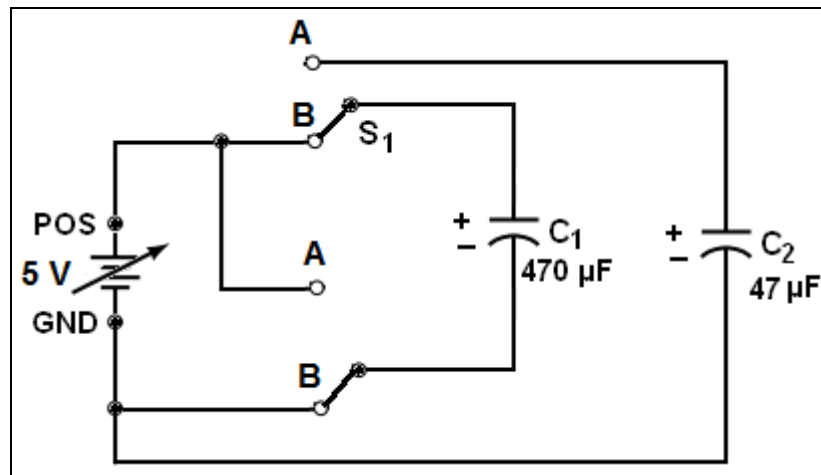

Fig. 3-3 Capacitors Used in Voltage Doublers
9. Construct the circuit shown in Fig. 3-3.